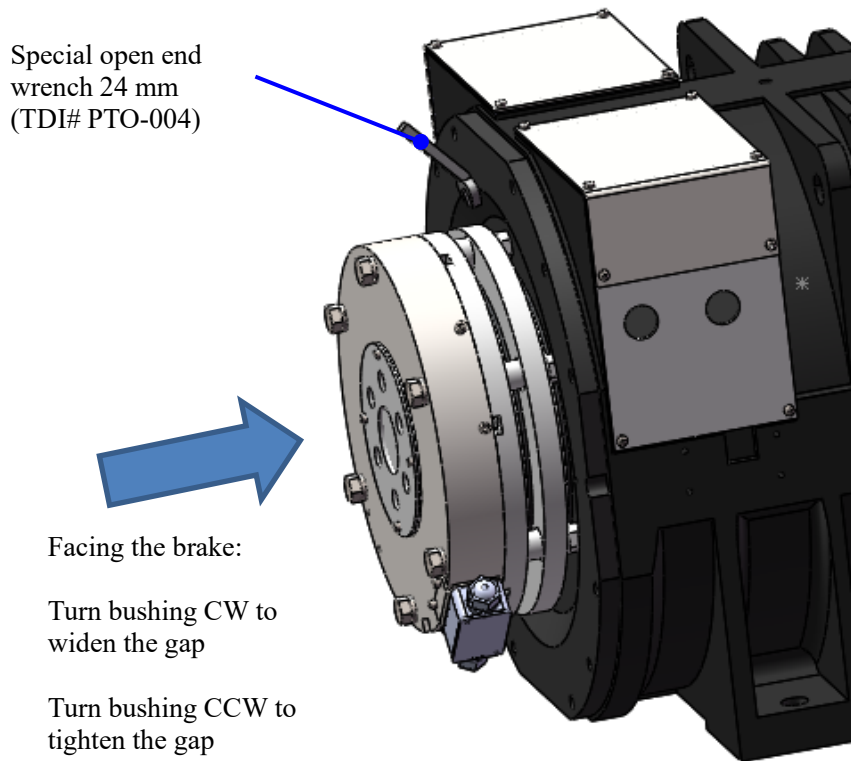

Figure 13 Special Open End 24mm Wrench
Special Open End Wrench: 24mm (TDI# PTO-004) See Figure 13.
1. Loosen the bolt M16 with the largest gap one full turn using the open end wrench (24mm). See Figure 13.